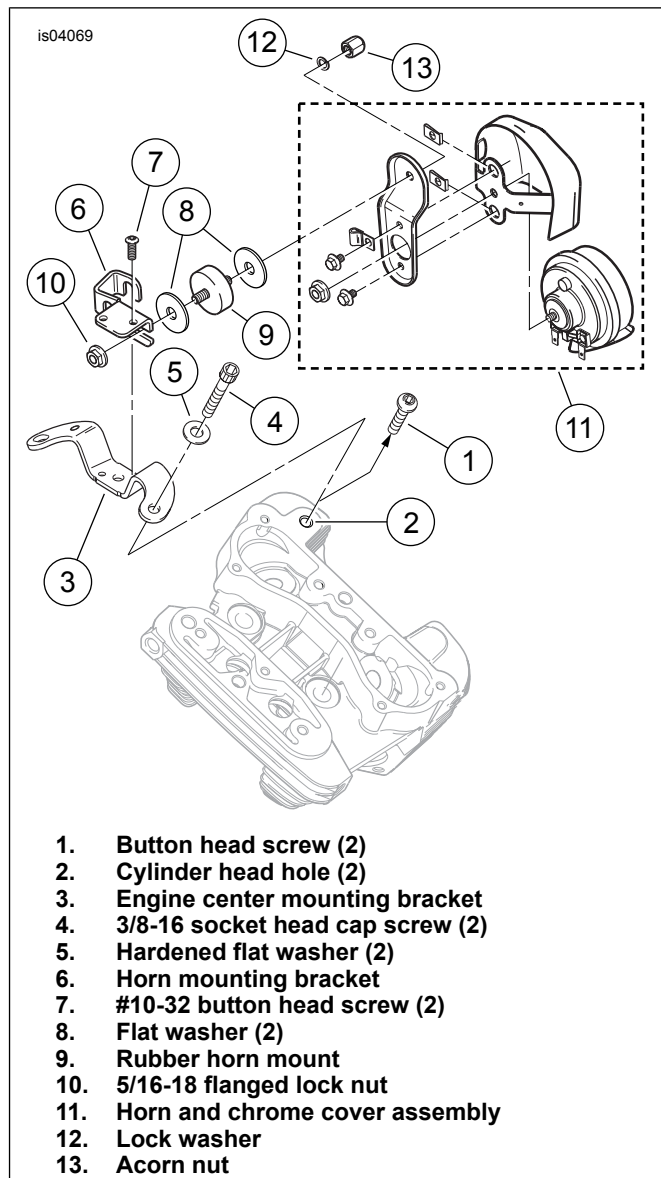

Figure 9. Horn Assembly Installation, 2007 and Later Models
- (2) #10-32 x 1/2 in. long button head screw, Item 22
6. See Figure 9. Remove the two button head screws (1) with lock washers found in the cylinder head holes (2).
7. Position the new engine center mounting bracket (3) over the holes, and secure with the two 3/8-16 x 1-1/4 in. long socket head cap screws (4) and hardened flat washers (5) from the kit. Tighten the screws to 23–32.5 N·m (17–24 ft-lbs).
8. Position the horn mounting bracket (6) over the engine center mounting bracket, and secure with the two #10-32 x 1/2 in. long button head screws (7) from the kit. Tighten the screws to 4–7 N·m (36–60 **in-lbs**).
9. Install one of the large diameter flat washers (8) on each threaded stud of the rubber mount (9). Insert a rubber mount stud through the slot in the horn bracket, and secure from behind with the 5/16-18 flanged locknut (10) from the kit. Tighten the nut to 6.7–20.3 N·m (60–180 **in-lbs**).
10. Obtain the horn and chrome cover (11) assembled earlier. Install the ground wire from the kit to the ground terminal on the horn.